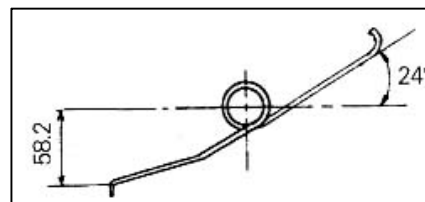

Fig. 5-17
- (9) Measure the free length and installation load of the ratchet spring (Figure 5-17); Installation loads: 14.7N